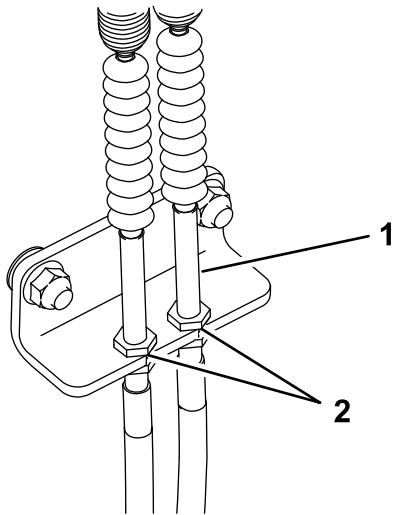

Figure 46
2. Inside the left side of the control tower, adjust the nuts until the cables are taught (Figure 46).